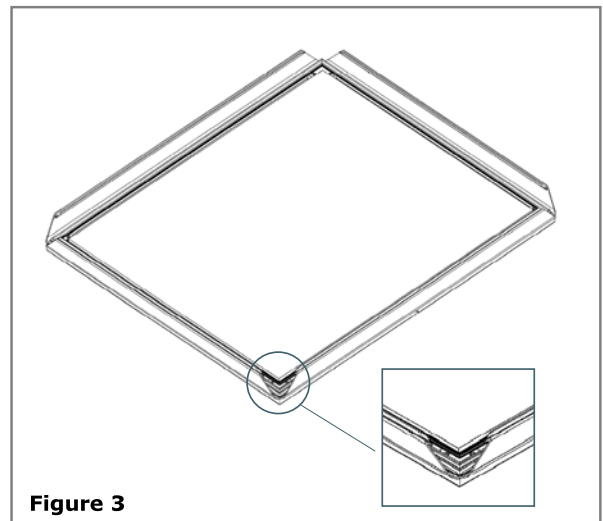

Figure 3
1. Open the frame by flipping back all four sides of the frame. **See Figure 3.**